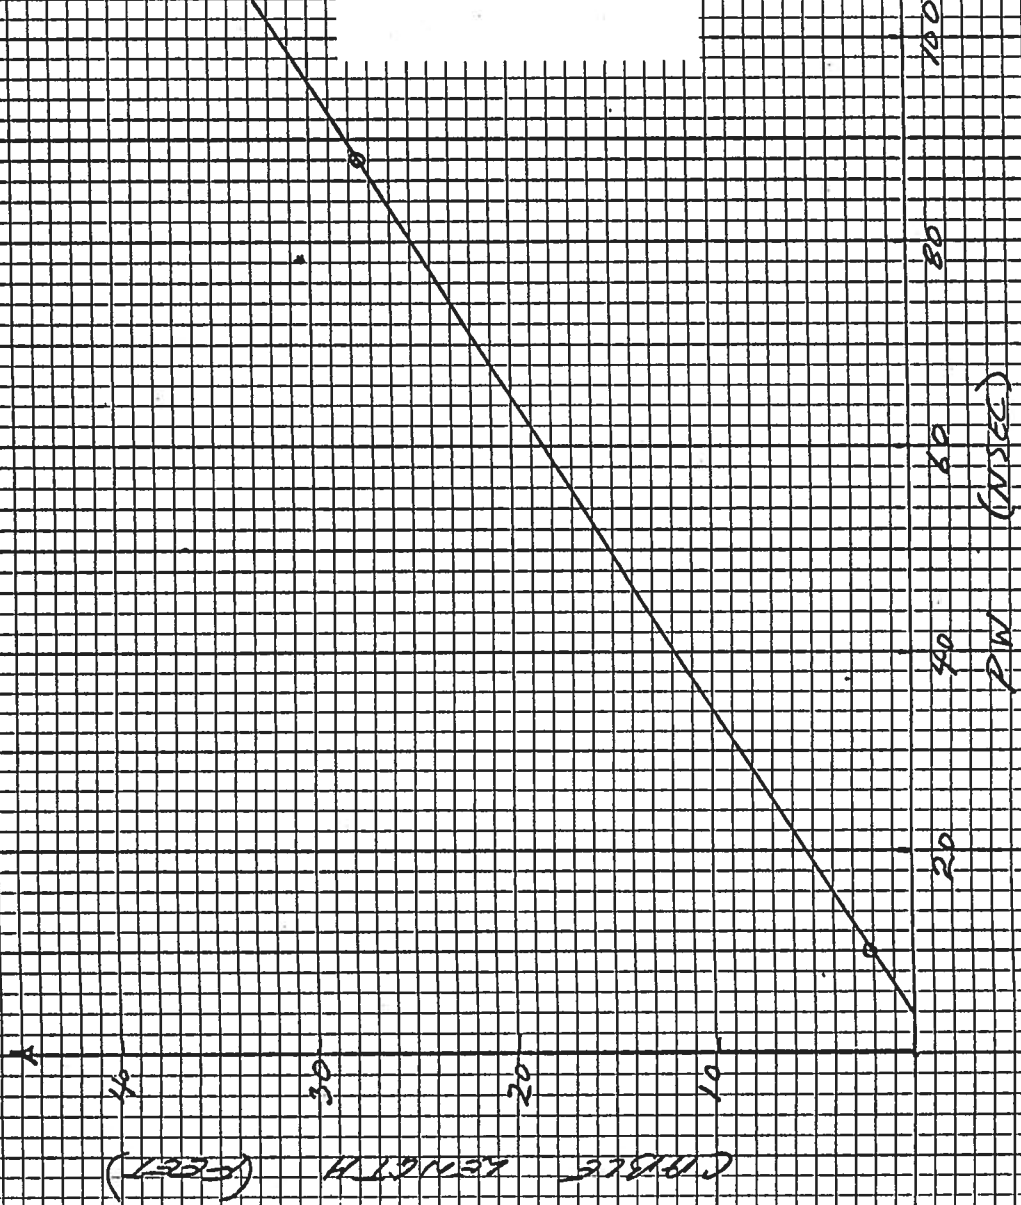

FIG. 1
- 4) The Model AVK output pulse width is a linear function of the length of open circuited coaxial cable connected to the "PW" port (see Fig. 1). The open circuited delay line should be formed from high-quality semi-rigid 50 ohm coaxial cable (eg. 0.085 inch copper 50 ohm semi-rigid). Miniature flexible coaxial cable such as RG 174 may be used but may result in a degraded fall time. In the absence of an external cable connected to the tune port, Model AVK outputs a 2 nsec pulse.